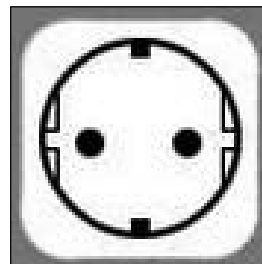

fig. 22 - Schuko socket
- a Schuko wall socket with ground and separate protection is required (fig. 22);